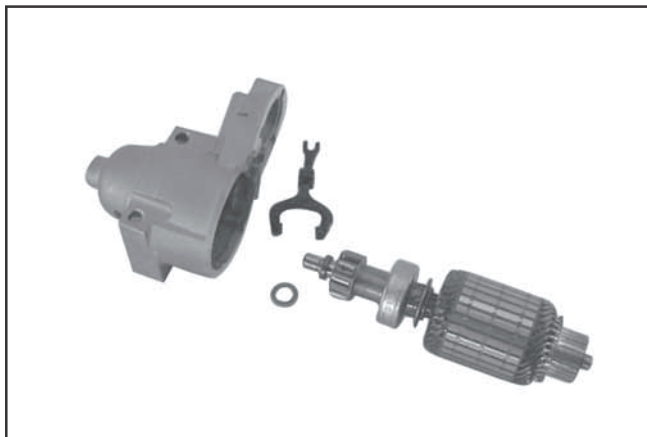

Figure 7-24. Armature and Lever Removed.
8. Take out the drive lever and pull the armature out of the drive end cap. See Figure 7-24.
9. Remove the thrust washer from the armature shaft. See Figure 7-24.